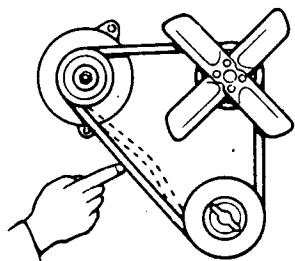

Fig O4.1
- (1) Refer to Fig O4.1. To check belt tension depress the belt at the midway point of its longest run with moderate finger pressure. Deflection is to be 12 mm. If it is more or less than this, retension the belt.